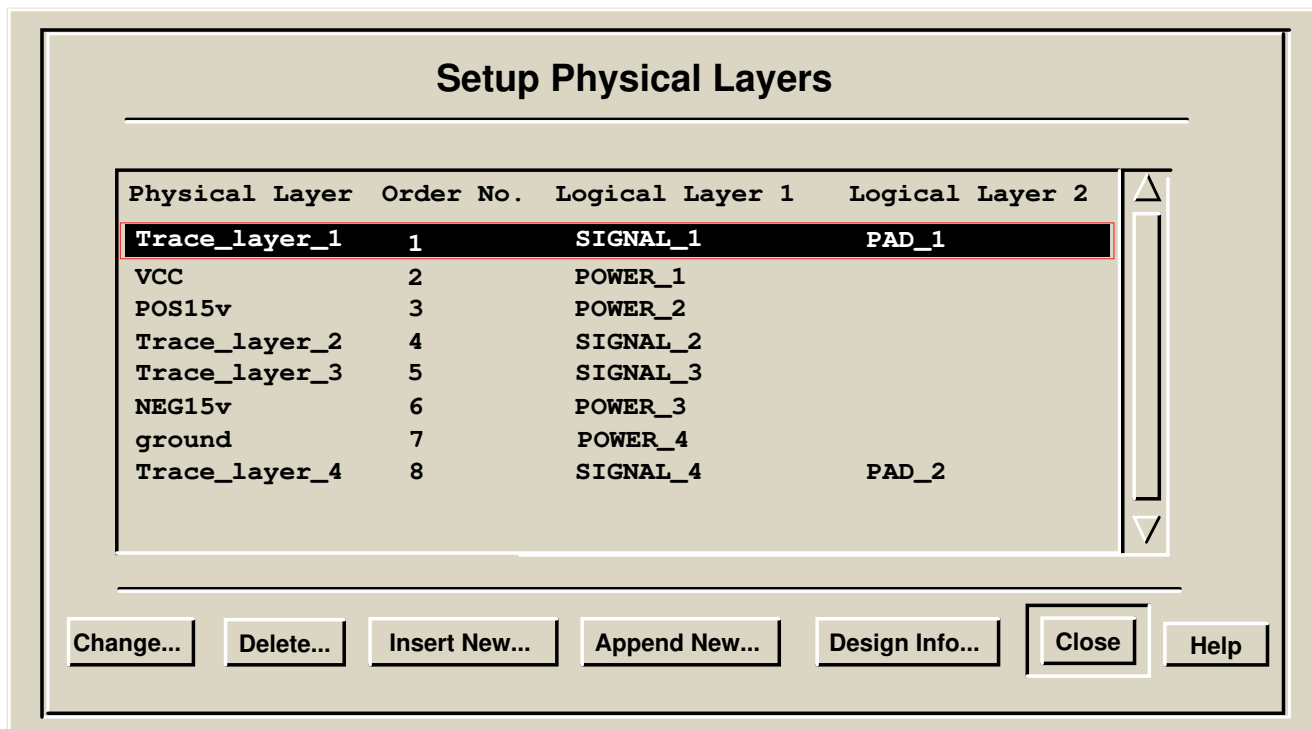

Figure 4-22. Final Contents of the Setup Physical Layers Dialog Box
10. Verify that the contents of the Setup Physical Layers dialog box matches Figure 4-22.